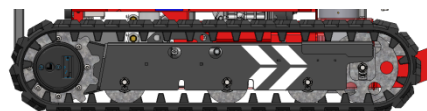

Figure: 33
- The driving direction is indicated by an arrow on the crawler track undercarriage (see figure 33).